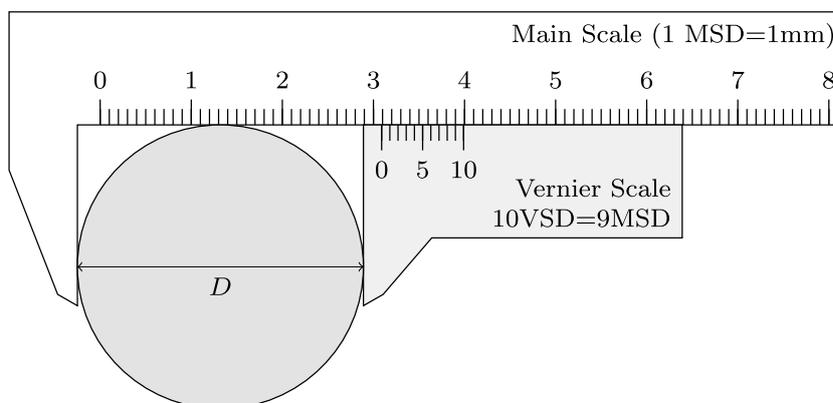

Figure 11: Problem 4.
**Problem 4.** The zero error of the Vernier calipers shown in Figure 11 is  $-0.5$  mm. What is the diameter of the sphere being measured in the figure. (Ans: 3.14 cm)